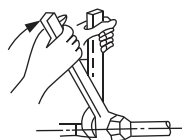

Fig.5-4
- Tighten it with a spanner and torque wrench (Refer to Fig.5-4)
- When connecting the refrigerant pipes, always use two wrenches/spanners to tighten or loosen the nuts !(Refer to Fig.5-4) Otherwise, it will cause damage of piping connections and leakage .